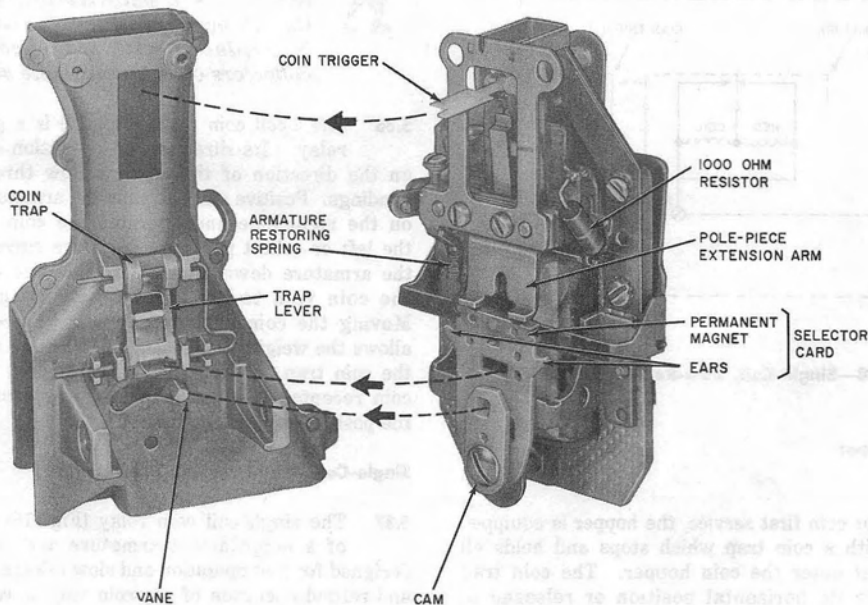

Fig. 29—Coin Hopper and Rear View of Coin Relay
**5.37** The single-coil coin relay (Fig. 16) consists of a nonpolarized armature and relay coil designed for fast operation and slow release. Collect and refund operation of the coin vane is controlled by a polarized selector card located at the back of the relay assembly as shown in Fig. 29. The